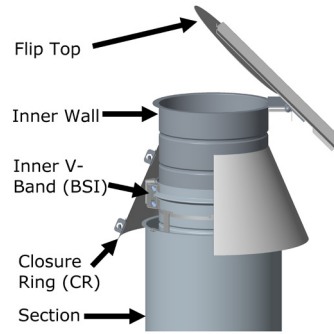

Figure 69 - Flip Top (FT) installed
CIX4), that is attached on the uppermost chimney pipe section with a inner V-Band (BSI) (See Step 1 to 4 in the JOINT ASSEMBLY Section). For Models CAX1, CIX1, CIX2 and CIX4, a Closure Ring (CR) is provided to protects the insulated space between standard pipe inner and outer. If a FT is installed on a horizontal termination, the hinged side of the top must be oriented at the top of the pipe keeping the counterweight up. The CR must be seal to the inner wall with outer Sealant S-375. See Figure 69